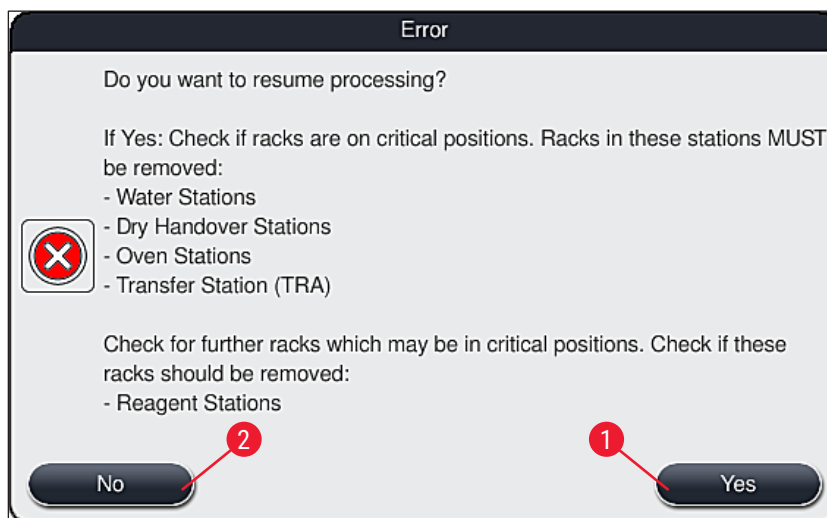

Fig. 108
4. Following this, the user has the option of selecting whether or not the staining process is to be resumed (→ P. 132 – 8.2.2 Resuming the staining process after a power failure) or canceled (→ P. 134 – 8.2.3 Canceling all staining processes after a power failure)(→ "Fig. 108").
2. Remove the critical racks from the instrument in accordance with the previous information message (→ "Fig. 108") and confirm the removal by pressing the corresponding station (→ "Fig. 109-1") on the screen.
The cancellation of the staining process and the return to the previous selection menu (→ "Fig. 108") can be undone by pressing the **Cancel** button (→ "Fig. 110-2").